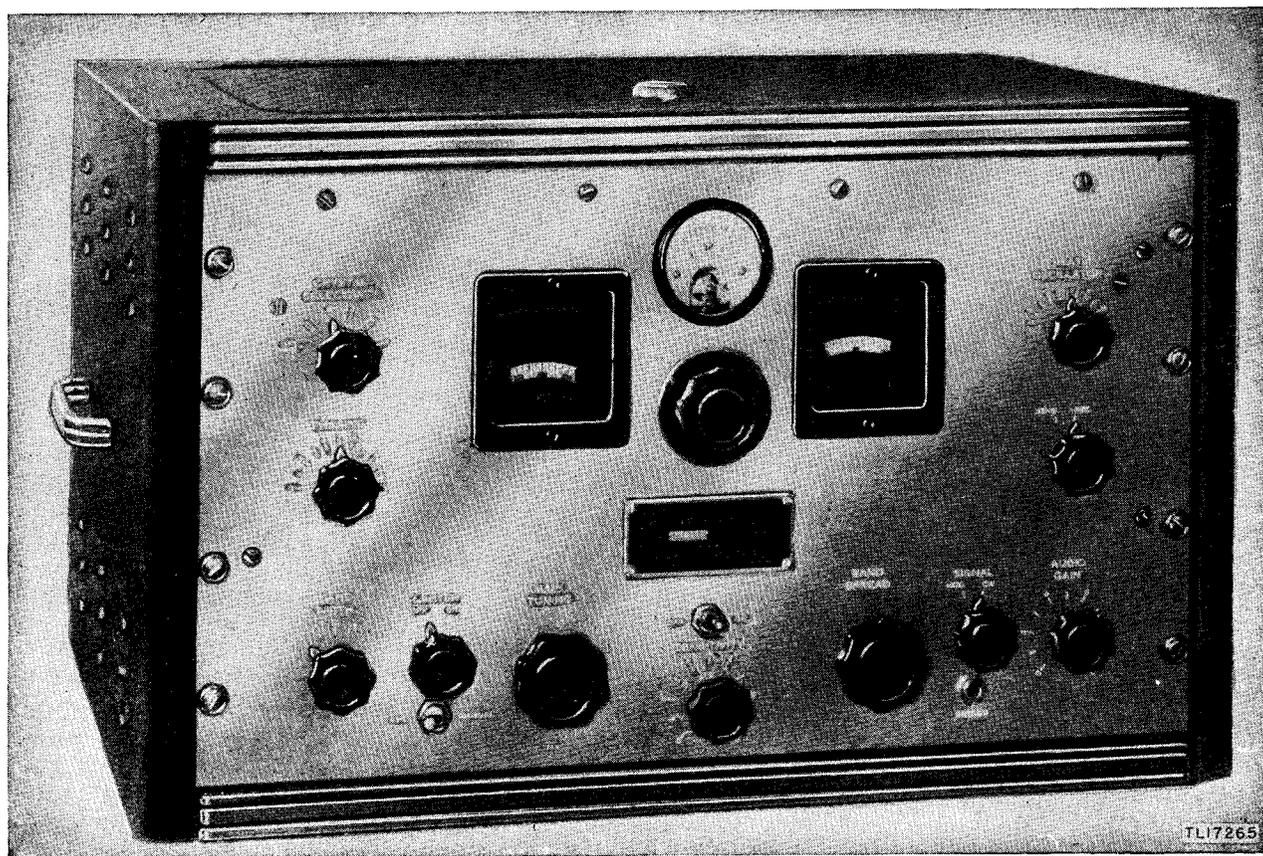
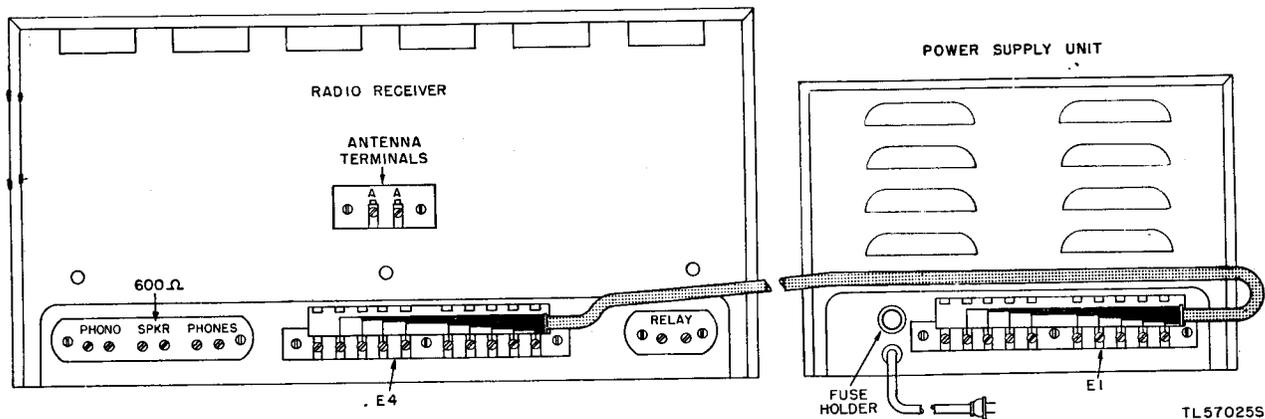
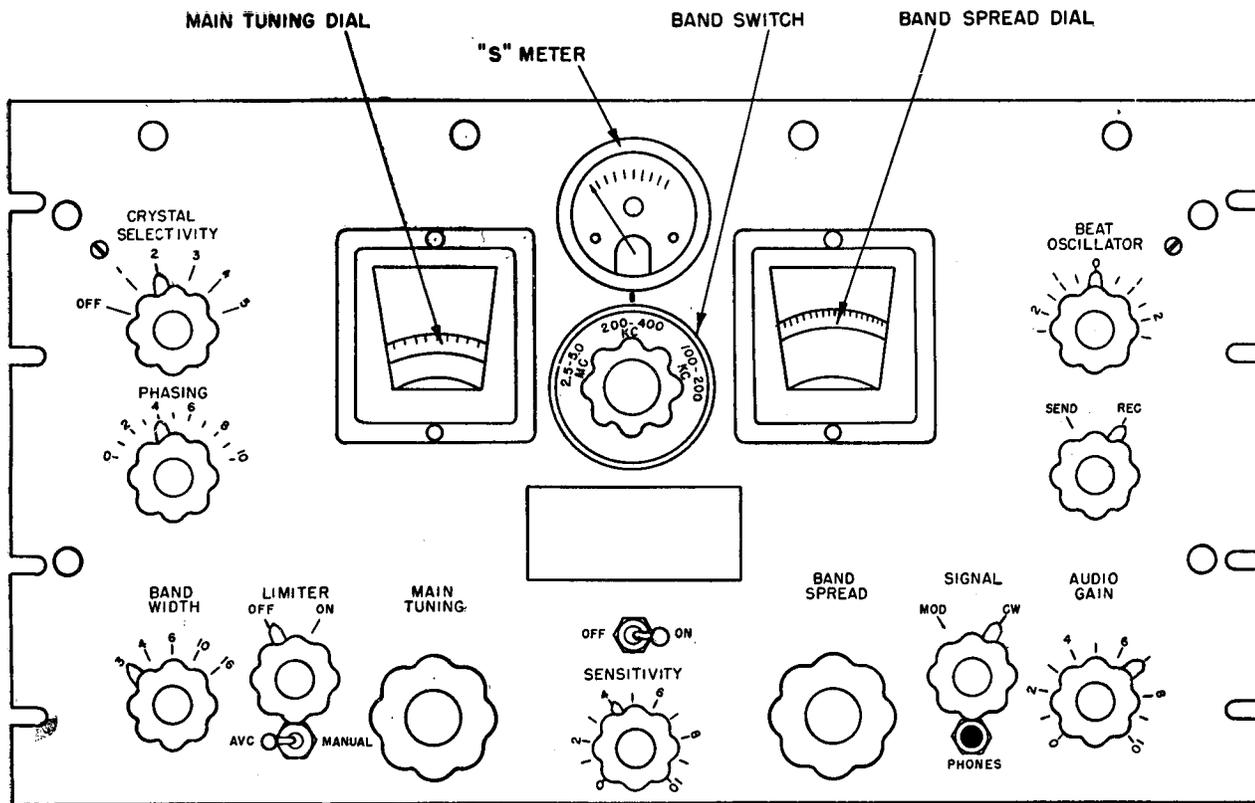

Figure 6. Radio Receiver BC-779-B in Cabinet CH-104-A.
Figure 10. Cable connections for a-c operation.
Figure 15. Radio Receiver BC-779-B, front panel.
in Cabinet CH-104-A (fig. 6). The under side of the receiver chassis is equipped with a steel cover plate which has heavy, felt-covered feet in the corners. The rear of the chassis (fig. 10) is provided with a terminal strip which is used in making connection either to the power supply unit or to batteries. The S meter located at the top center of the receiver panel is not supplied with Radio Receiver BC-1004-D.
- (1) Remove the sheet metal covers from the terminal strip E4 on the rear of the receiver and from the terminal strip E1 on the power supply unit.
- (2) Make sure that all 10 screws on each strip are unscrewed at least three turns.
- (3) Attach one end of the connector cable to each terminal *exactly* as shown in figure 10 and
*d.* EARPHONES. Insert the plug of Headset HS-30 (or any other available headphone) into the PHONES jack (fig. 15), or connect it to the screw terminals marked PHONES on the rear of the chassis (fig. 10). No matching transformer is necessary.
#### 15. Receiver Controls (fig. 15)
*o.* SEND-RECEIVE SWITCH. This switch is provided for use when the receiver is used with an associated transmitter. The receiver is silenced when the switch is in the SEND position. This position allows the receiver to remain ready for instant use. The RELAY terminals at the rear of the receiver (fig. 10) are for convenience in connecting a relay to disconnect automatically the receiver in preference to operating the SEND-REC switch.
*q.* SPKR TERMINALS. These terminals on the rear of the receiver (fig. 10) are provided so that a permanent magnet type loudspeaker may be connected to the output of the receiver.